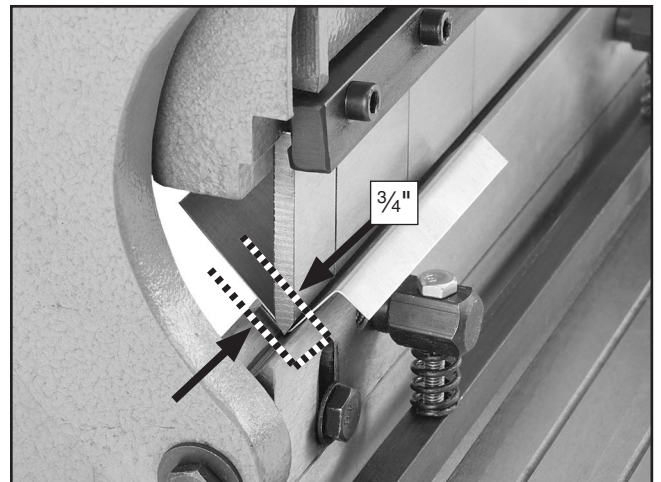

Figure 37. Minimum reverse bend.
4. If a reverse bend is required, re-install the workpiece upside-down, as shown in **Figure 37**, and repeat **Steps 2–3**. The minimum reverse bend possible is $\frac{3}{4}$ ".